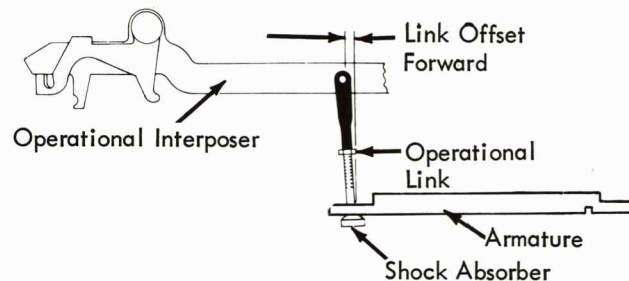

FIGURE 126. Front to Rear
- Front to Rear - so that the armature link holes are slightly to the rear of the interposer link holes (Fig. 126).